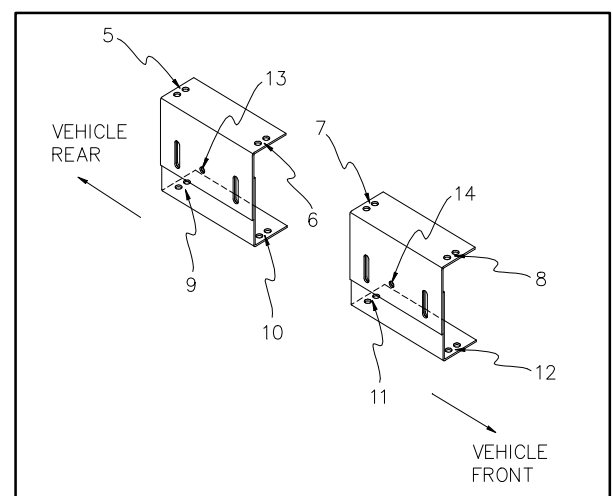

FIGURE 2-6: TOP BRACKET HOLE LOCATIONS
- 5) Refer to **Figure 2-6**. Match and align both top bracket holes 5, 6, 7 and 8 with baseplate assembly holes 5, 6, 7, and 8. Mark bracket assembly mounting holes 9, 10, 11, and 12 onto vehicle step.